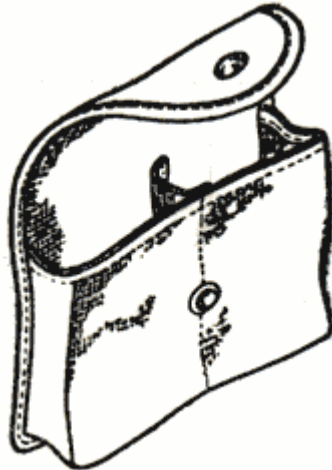

Fig. 4. Bag for SPTA.
- bag for SPTA (Fig. 4) - 1 pc.;